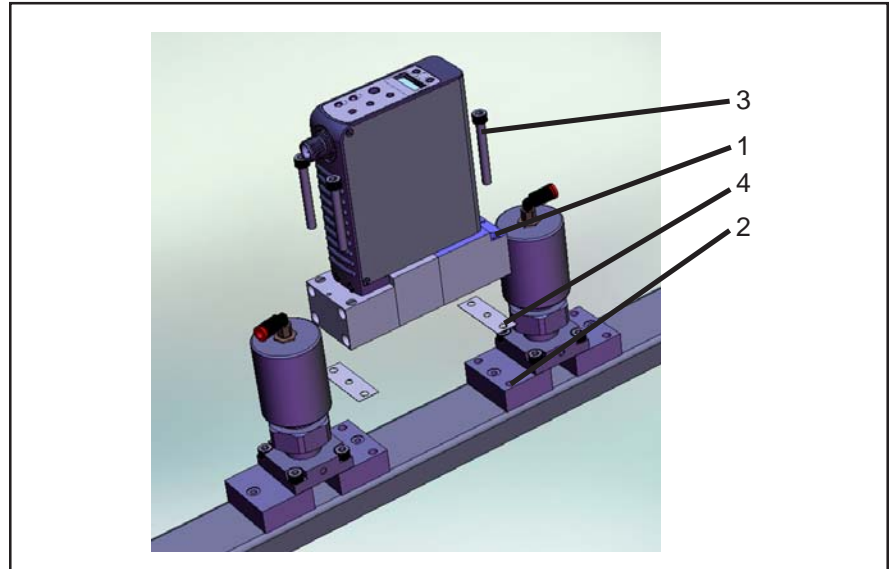

Figure 2-4 GF100 Series Mounted to K1 Series Substrate Blocks
1. Refer to Figure 2-4. If downported fittings (1) are used, the GF100 Series is mounted to K1 Series substrate blocks (2) with four screws (3). Metal C-seals or W-seals (4) (as provided by integrator) are inserted between the GF100 Series and substrate blocks before the screws are installed. These metal seals must be replaced after each installation.
3. Refer to Figure 2-4. Insert the two mounting seals (4) over the gas flow path of the K1 block. Carefully align the GF100 Series mounting holes onto the K1 substrate blocks. Using your fingers, install the screws through the GF100 Series fitting and hand tighten.